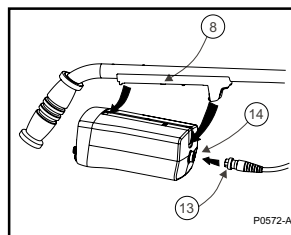

Figure 5 - Mounting the Control Box on the Shaft
a) Position the control box so that the recess in the control box (1) is aligned with the leading edge of the mounting clip (8). Push the forward section of the control box upwards until the trigger 'clicks' indicating the control box is secured (see figure 5).
- b) Slide in the black plastic rear control box bracket (8).
- d) Clip the control box onto the rear mounting bracket (see figure 5).
- f) Connect the coil connector (13) to the plug (14) on the rear of the control box.